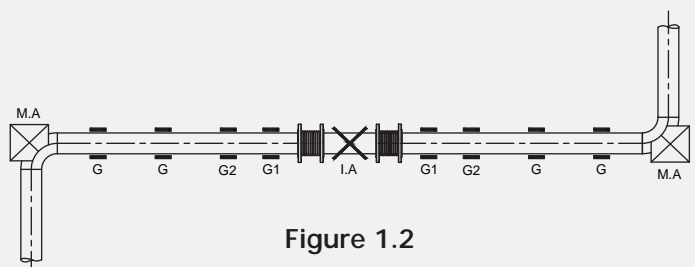

Figure 1.2
Figure 1.2 typifies good practise in the use of a double Expansion Joint to absorb axial pipe line expansion. Note the addition of the intermediate anchor (I.A) which, in conjunction with the the two main anchors, divides the pipe line into individual expanding sections, so that there is only one Expansion Joint between any two anchors. Note also the closeness guide and the second alignment guide (G1) to each Expansion Joint, the spacing between the first alignment guide and the second alignment guide (G2) and the spacing of intermediate guides (G) along the balance of each pipe section.